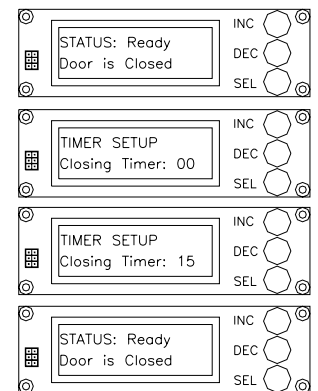

FIG. F3
- c. **Adjust closing timer** using the Display and 3 Buttons provided (Figure F3).